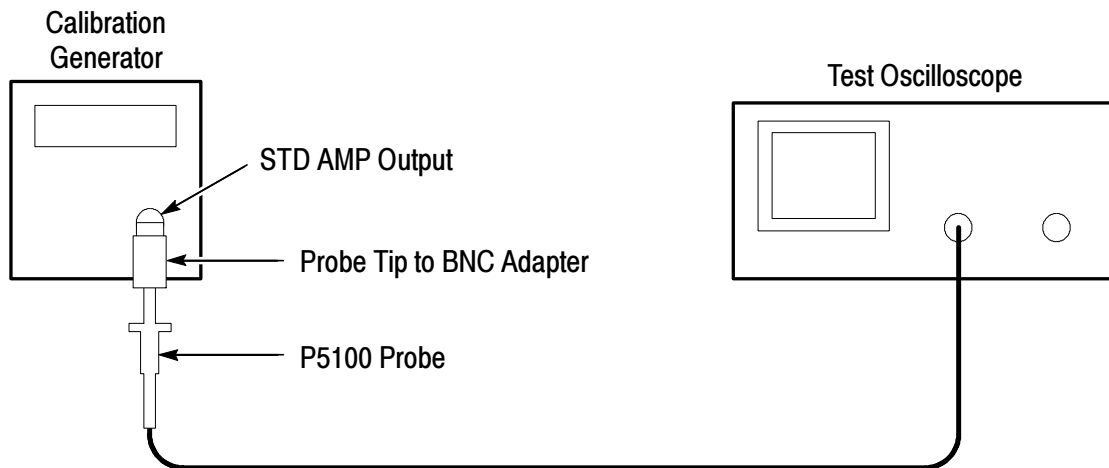

Figure 8: DC Accuracy Test Setup
1. Connect the DC accuracy test setup as shown in Figure 8.